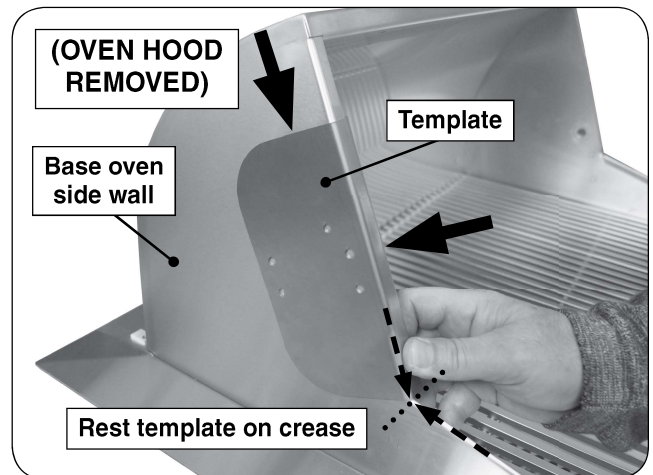

Fig. 2-3 Place drilling template (on oven base)
4. With the oven hood removed and set aside, place the stainless steel drilling template onto the base oven side wall as shown in Fig. 2-3.